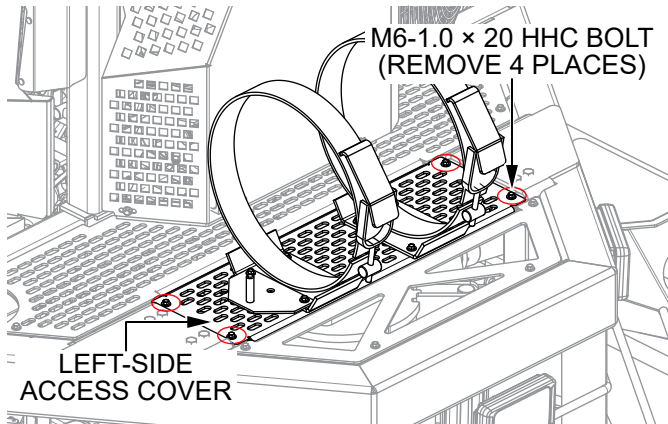

Figure 5. Remove Left-Side Access Cover
1. Remove and set aside the four M6-1.0 × 20 HHC bolts (Figure 5) securing the left-side access cover to the frame.
2. Remove the left-side access cover (Figure 5) and set it aside.